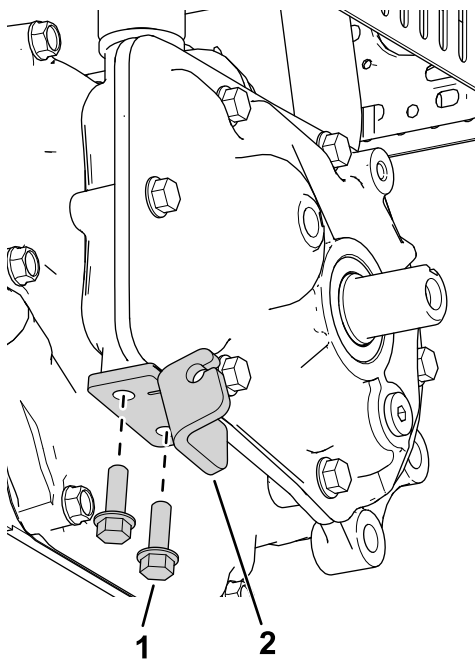

Figure 1
1. Install the clutch plate with 2 bolts (1/4 x 3/4 inch) as shown in Figure 1.